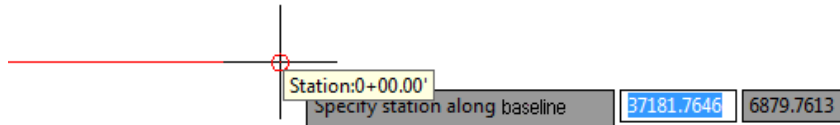

Figure 2-53 A tooltip showing the first station
- As you move the cursor over the alignment, a tooltip showing the first stations is displayed, as shown in Figure 2-53. Zoom in to view the alignment and click on **0+00** at the start of the alignment. Now you are prompted to specify the offset distance.